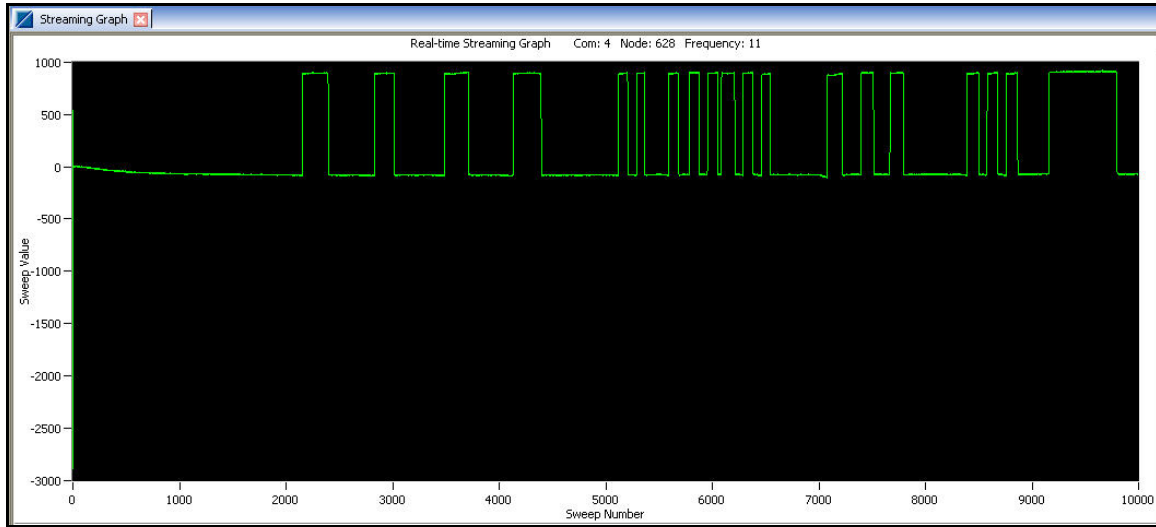

Figure 8
- During the streaming, push in and release several times, the button on the edge of the Tester Board to shunt the resistor in and out of the stream. This will appear as a stepped (green) line as shown in **Figure 8**. Steps will be $\sim 1000 \mu\text{-strain}$.